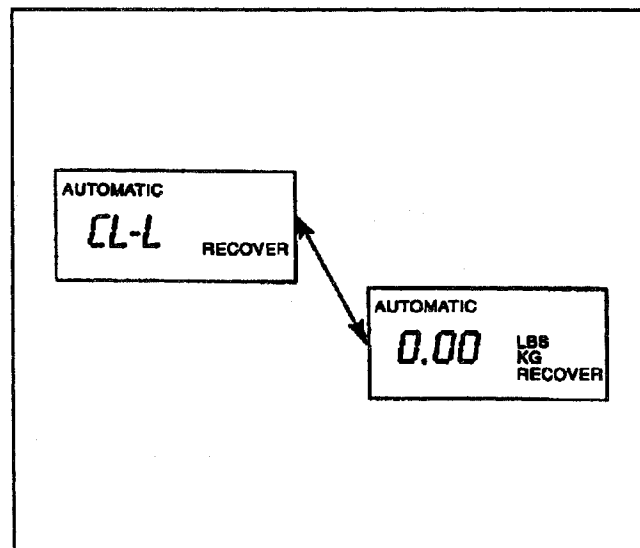

Figure 19—Refrigerant Recovery Display at Start
9. Press "RECOVER" on the key pad. Before recovery begins, the unit will clear itself of refrigerant, then "CL-L" will appear on the display. The clearing process takes from 30 seconds to 3 minutes to complete (Figure 19).